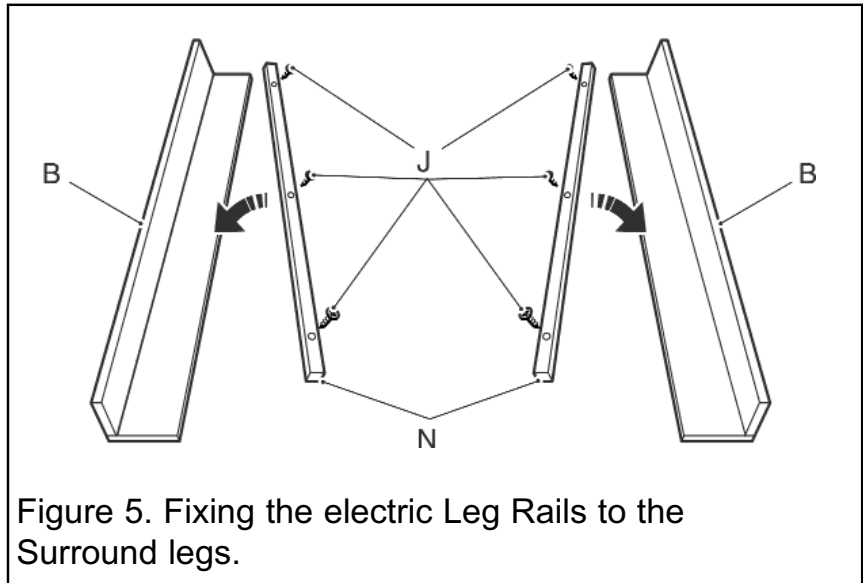

Figure 5. Fixing the electric Leg Rails to the Surround legs.
- Take the electric fire Leg Rails (N) and locate them to the Surround Legs (B) as in figure 5. Secure in place using screws (J).